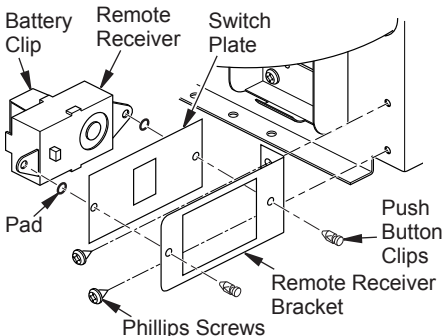

Figure 18 - Installing Remote Receiver and Bracket
7. Remove screws and switch plate (see Figure 18). Save items removed.
8. Install remote receiver into receiver bracket using pads and push button clips provided with receiver (see Figure 18).
2. Locate the battery clip mounted on the back of the receiver (see Figure 18).